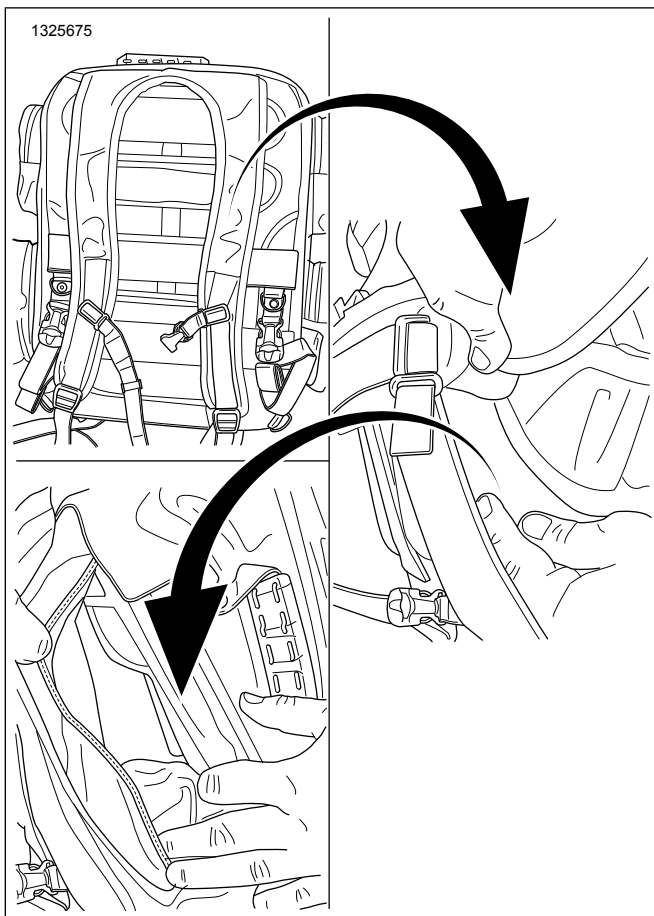

Figure 12. Strap Storage Location
1. See Figure 12. Disconnect quick release clips on two long backpack straps from D-rings at bottom of bag.